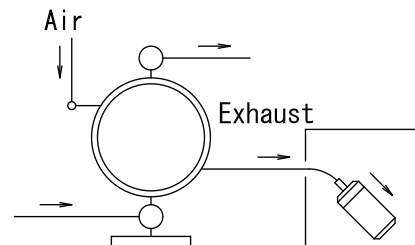

Fig. 3.2
*Exhaust should be directed outside, not into the fluid in which the pump is submerged. For information on how to arrange the exhaust, see Note: Arranging outside exhaust and Fig. 3.2 below.